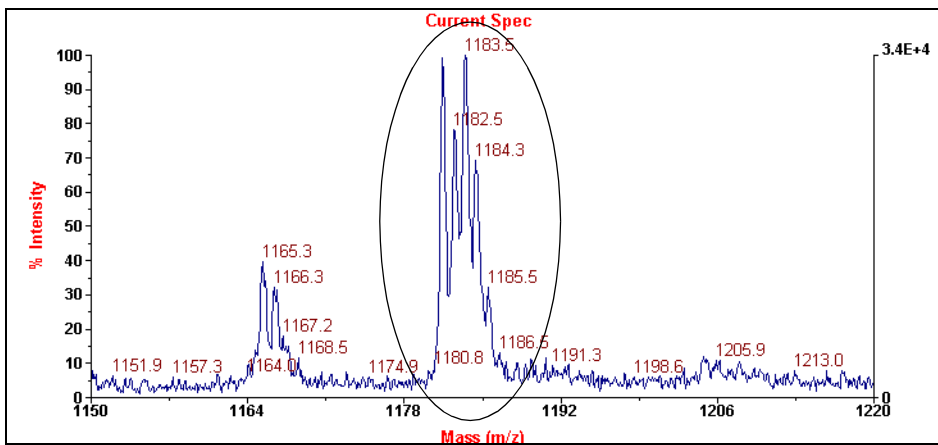

Figure 8-14 Angiotensin I Fragment Ions (Precursor Ion Selector On)
4. Observe the 1,180 to 1,190 Da mass region for the fragment ion cluster typically seen for angiotensin I (Figure 8-14).